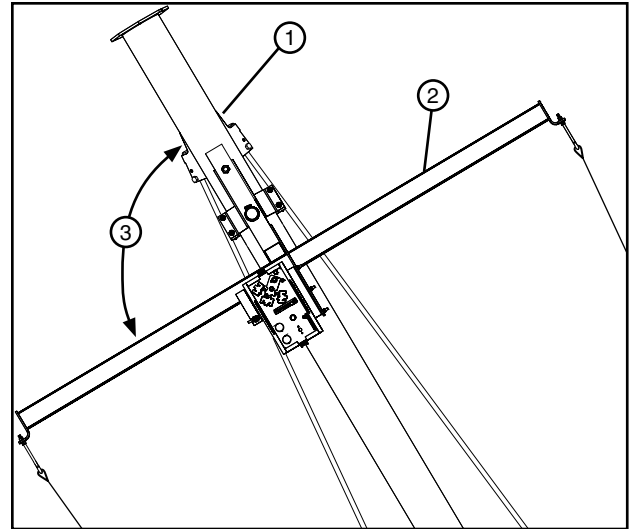

Figure 83-1 1. Span Pipe 2. T-bar 3. 90 Degrees
1. Adjust the fixed end cable mount hook bolts until both the proper deflection of safety cable is achieved and the T-bar is perpendicular (90 degrees) to the span pipe. See Figure 83-1.